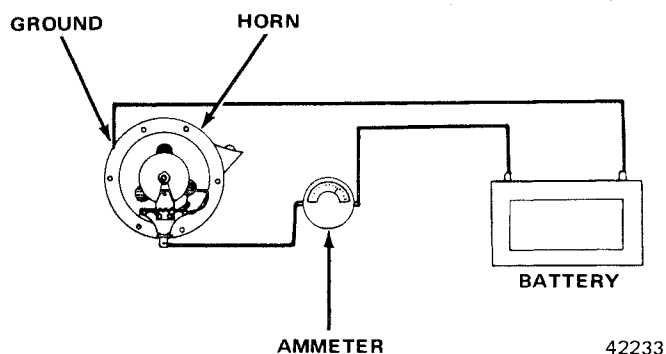

Fig. 3S-2 Connection for Horn Adjustment
(1) Check for normal battery voltage (about 12.6 volts).
(2) Connect ammeter in series between horn and battery and read current as shown in figure 3S-2.
(3) Adjust current to 4.5 amps.